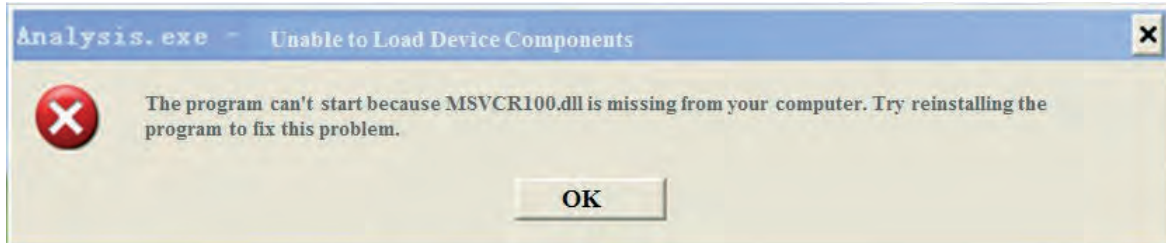

Figure 2-19
a. Double-click the shortcut to run the program. If the error 1 prompt “MSVCR100.DLL cannot be found” occurs, See Figure 2-19 to 2-20: